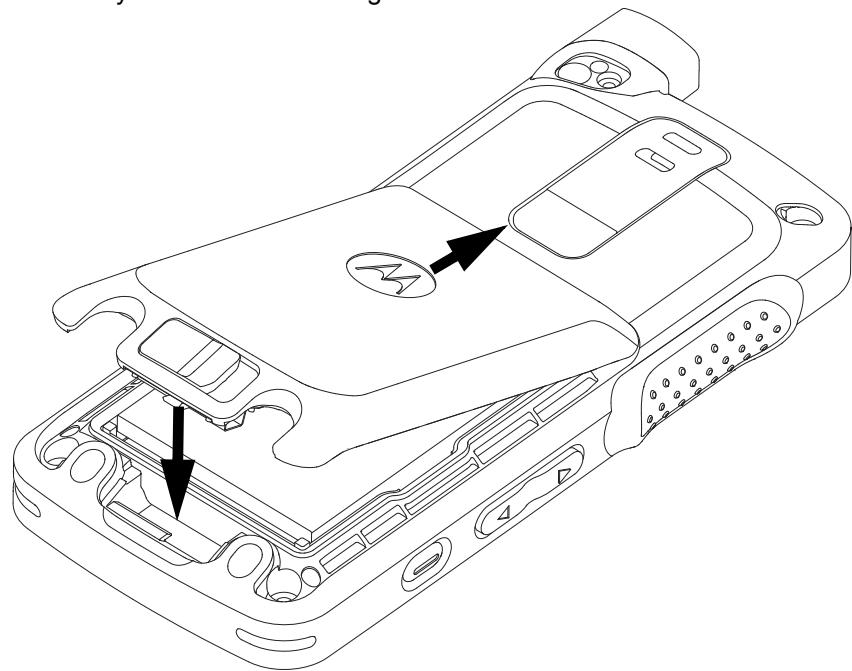

Figure 5-31. Battery door reassembly
5. Insert the battery door as shown in Figure 5-31.